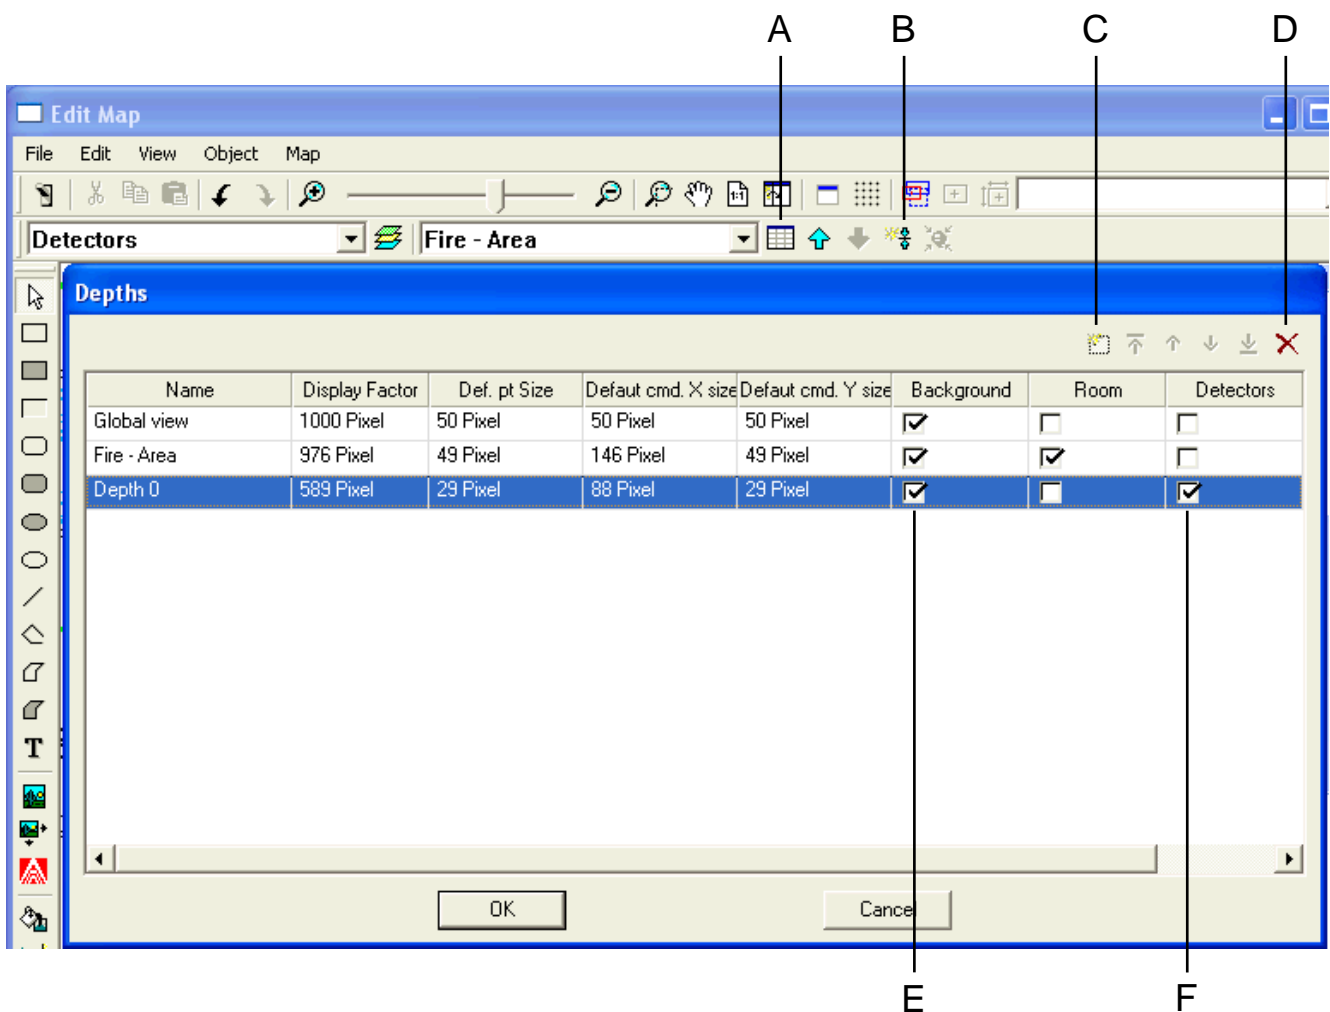

Fig. 7 Creating a new depth
- Note:** You have one button to create a new depth, and another to open the depth window where you can also add (as well as delete) a depth (see Fig. 7). Try to use the first command because it allows you to automatically set the zoom factor. The second command requires you to define the zoom factor as a numeric range (in pixel or metric unit).